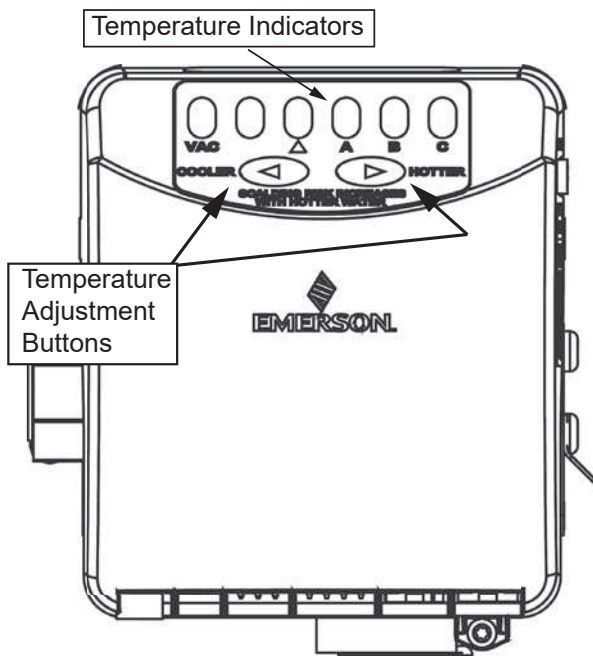

Figure 30. Adjusting the Thermostat
Mixing valves are available at plumbing supply or hardware stores. See *Figure 2* (page 8). Follow manufacturer's instructions for installation of the valves. Before changing the factory setting on the thermostat see *Figure 30*.
1. "Wake Up" the temperature indicators by holding down both "COOLER" and "HOTTER" temperature adjustment buttons at the same time for one second. See *Figure 30* (page 32). One or two of the temperature indicators will light up. These indicators will only remain on for 30 seconds if no further buttons are pressed. After 30 seconds the control will go back to "Sleep" mode.